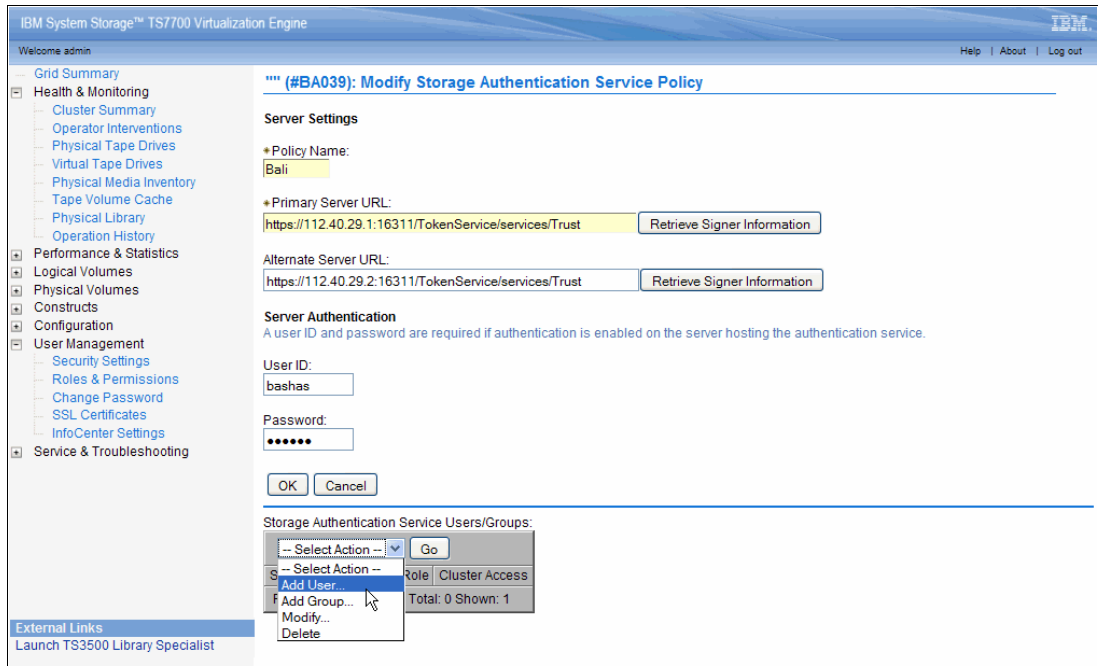

Figure 8-68 Adding a User to the Storage Authentication Service Policy
- ▶ Click **Go** to open the Modify Storage Authentication Service Policy panel shown in Figure 8-68 on page 509.
5. In the Modify Storage Authentication Service Policy panel shown in Figure 8-68, navigate to the **Storage Authentication Service Users/Groups** table at the bottom: